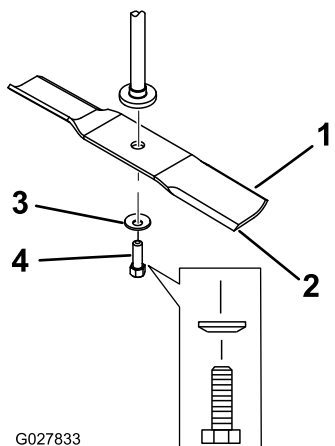

Figure 54
2. Remove the blade bolt, the curved washer, and the blade from the spindle shaft (Figure 54).
1. Install the blade onto the spindle shaft (Figure 54).
2. Install the curved washer (cupped side toward the blade) and the blade bolt (Figure 54).